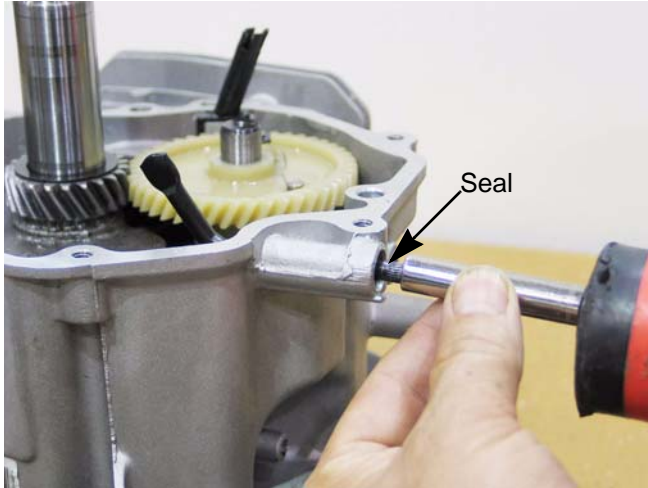

Figure 4.57
- Carefully slide a new seal over the governor shaft and seat using a 1/4" deep well socket. See Figure 4.57.